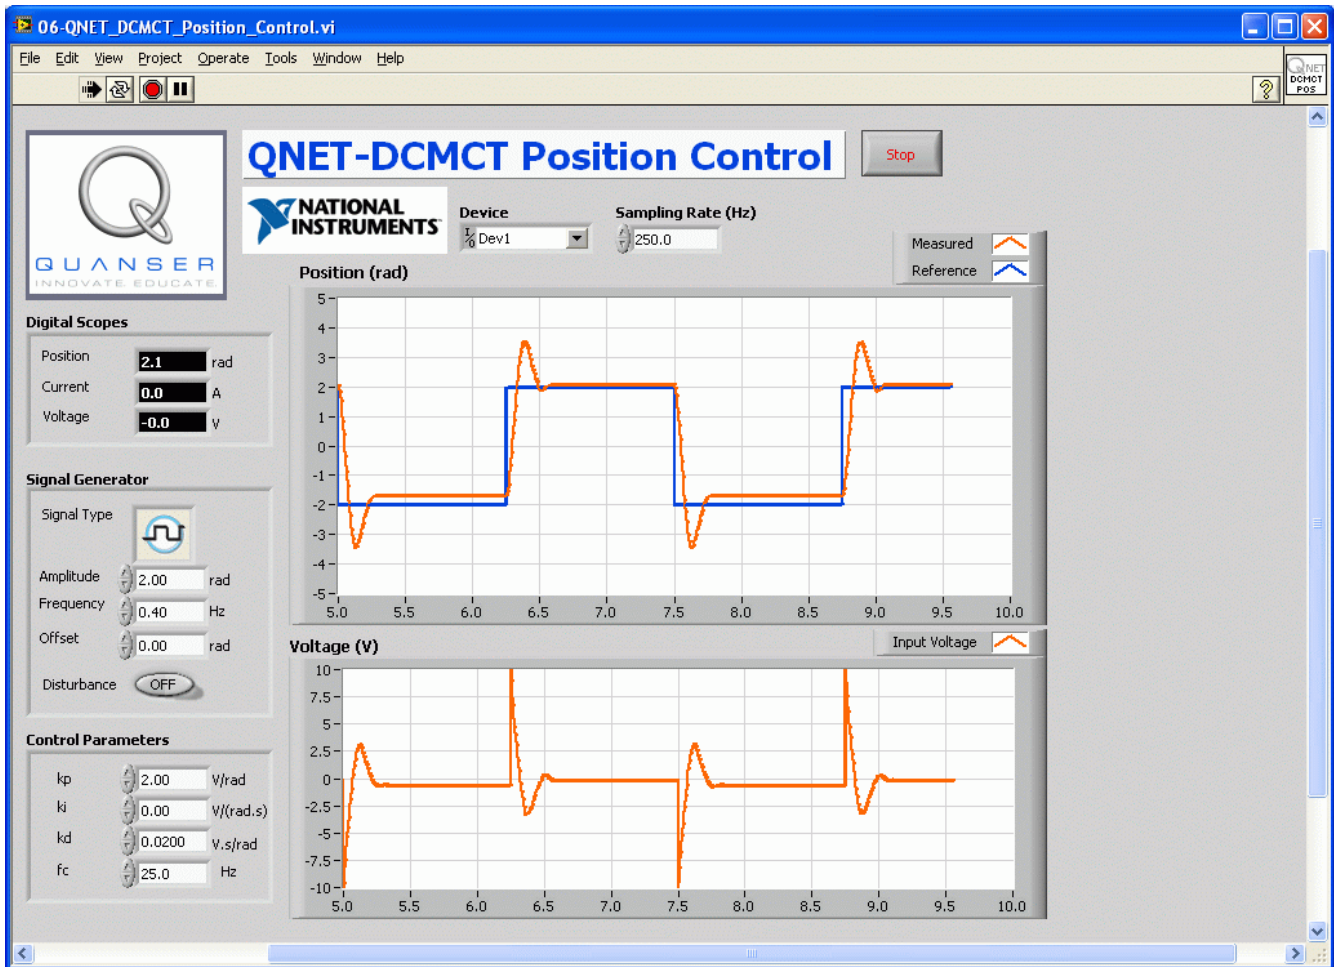

Figure 10: Running the QNET Position Control VI.
3. Run the QNET\_DCMCT\_Position\_Control.vi. The DC motor should be rotating back and forth and the scopes on the VI should appear similarity as shown in Figure 10.